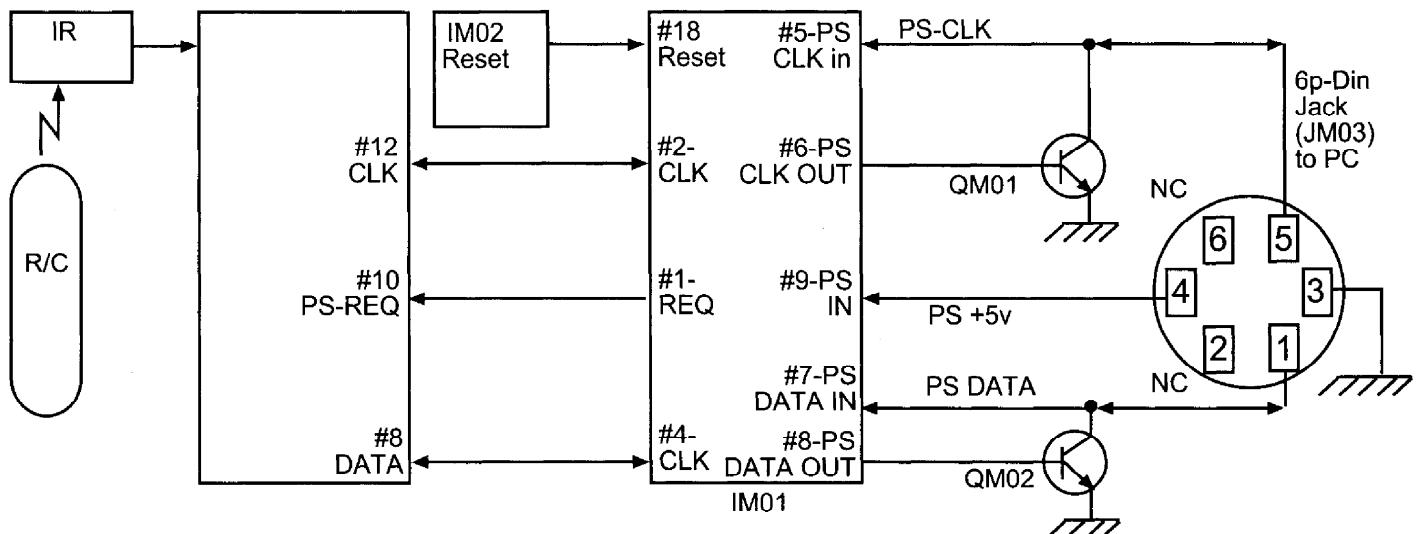

Fig. 5.1 SYSTEM BLOCK DIAGRAM
5. PC-MOUSE Microcomputer IM01 (M37470M4) (see Fig. 5.1 and 5.2)